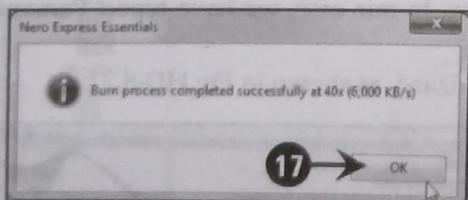

Fig.HD-8.25
When the data writing process is complete, the Nero Express Essentials message box appears, showing that the writing process is completed successfully (Fig.HD-8.25).
- Click the OK button to close the Nero Express Essentials message box (Fig.HD-8.25).